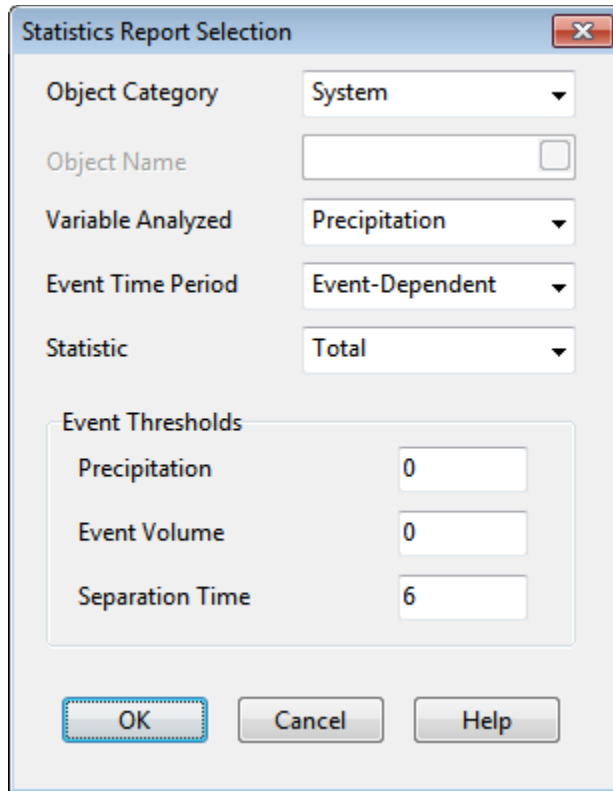

Figure 2-24 Statistics selection dialog
2. In the Statistics Selection dialog that appears, enter the values shown in Figure 2-24.